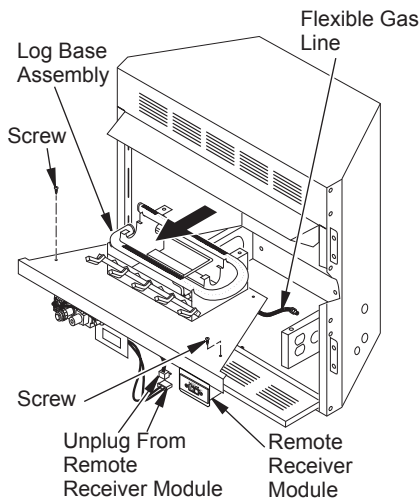

Figure 20 - Removing Log Base Assembly From Fireplace
2. Open lower louver door. Carefully pull straight out on the wire harnesses attached to right side and front of remote receiver module (see Figure 20).
3. Remove screws that attach log base assembly to fireplace (see Figure 20). Carefully lift up log base assembly and remove from fireplace (see Figure 20).